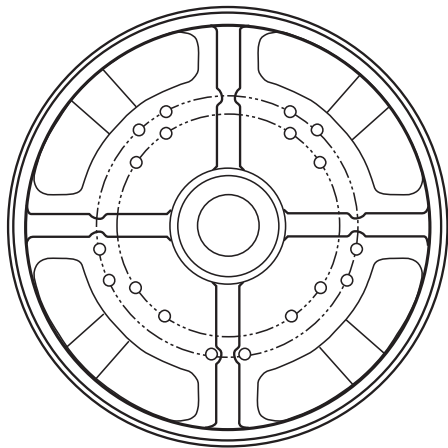

Figure 14
4. With some fans you have an option to install four or five blades. For five blades, mount to the outer row of holes on the motor. For four blades, use the inner row. See Figure 14.